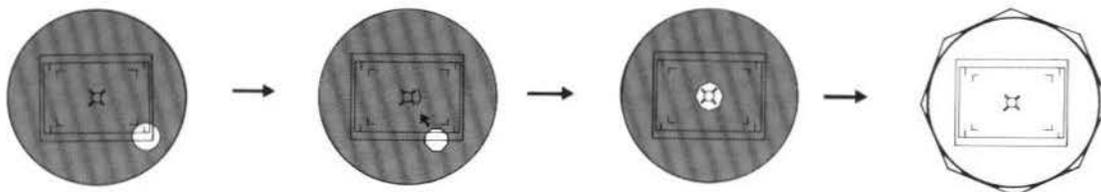

Fig. 34
④ Adjust the centering as shown in Fig. 34. After the centering is complete, open the field iris diaphragm until it inscribes field of view and check its final center position, while pressing the "O" position of the field iris diaphragm button.